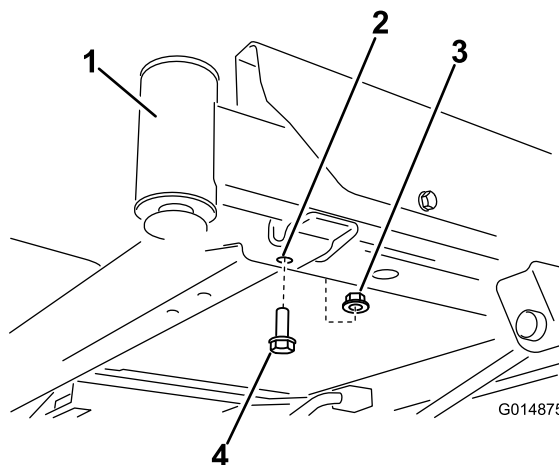
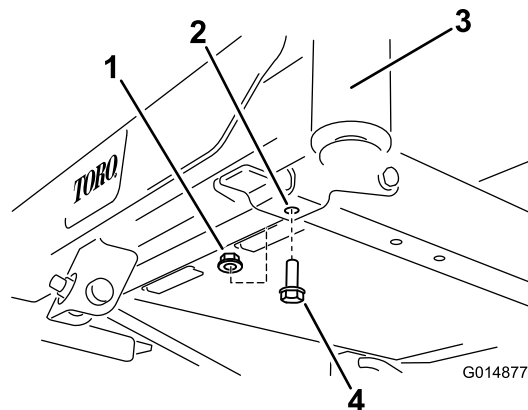

Figure 3
Figure 4
1. Locate the forward bolts on the underside of the frame (Figure 3 and Figure 4). Remove the two bolts (3/8 x 1 inch) and two locknuts (3/8 inch). Retain the lock nuts.